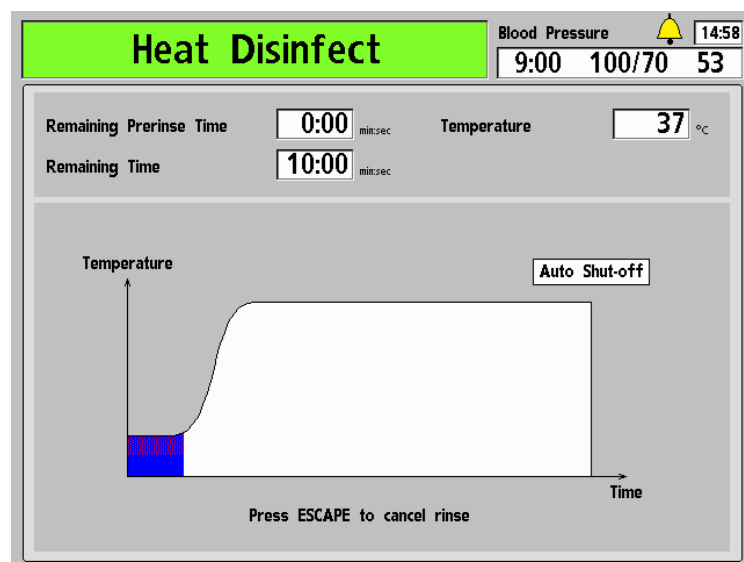

Figure 94 – The Heat Disinfection Screen
2. From the “Select Program” screen, select the **Heat Disinfect** button. The “Heat Disinfect” screen appears in the display (see Figure 94). If the machine was not rinsed prior to this, it will automatically run a short rinse (ten minutes) or an extended rinse (20 minutes) depending on how the machine was configured in Service Mode.
6. Return connectors to their ports when prompted (the machine will beep every 30 seconds until the connectors are inserted back in the rinse ports). The “Heat Disinfect” screen appears next in the display (see Figure 94 – The Heat Disinfection Screen). The machine will automatically run a short rinse (ten minutes) or an extended rinse (20 minutes) depending on how the machine was configured in Service Mode. The Heat Disinfect starts as soon as the temperature of the water reaches 176 °F/80° C. The program time can be set internally to run between 10 and 60 minutes.